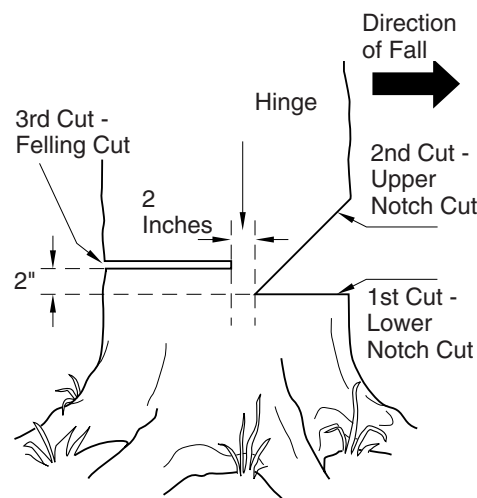

Figure 11 - Felling A Tree
A properly placed felling notch will determine direction tree will fall. Place felling notch on side of tree in direction you want tree to fall (see Figure 11). Follow directions below to create a felling notch.
1. Make lower notch cut as close to ground as possible. Hold saw so guide bar is horizontal. Cut 1/3 the diameter of tree trunk (see Figure 11). **Note:** Always make this horizontal lower notch cut first. If you make this cut second, tree can pinch chain or guide bar.
Example: If lower notch cut is eight inches deep, start upper notch cut eight inches above it. Cut downward at 45° angle. The upper notch cut should meet end of lower notch cut (see Figure 11).
1. Make felling cut two inches higher than lower notch cut and on opposite side of tree (see Figure 11). Keep felling cut parallel to lower notch cut.
⚠ WARNING: Do not cut all the way through tree. Leave about two inches of tree diameter uncut directly behind felling notch (see Figure 11). This uncut portion acts as a hinge. The hinge helps keep tree from twisting and falling in wrong direction.